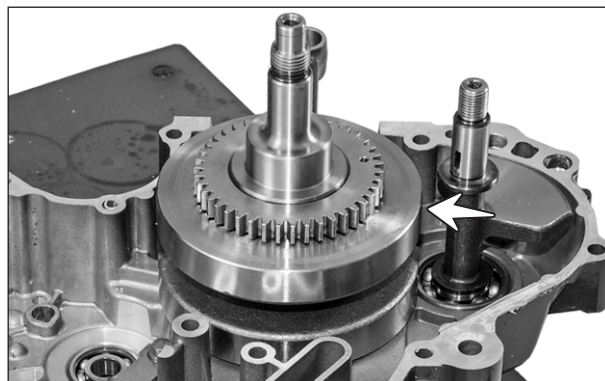

Fig. 3.178
- Rotate the balancer shaft to other side as shown and assemble the crankshaft assembly in the crankcase assembly LH. (Fig. 3.178)